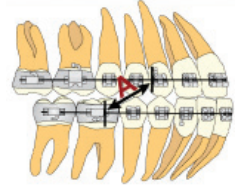

Figure 4.
- Measure from the distal edge of the upper cuspid bracket to the mesial end of the lower 1st molar tube (Figure 4).
- See the chart below for measurement ranges (A) and part numbers.